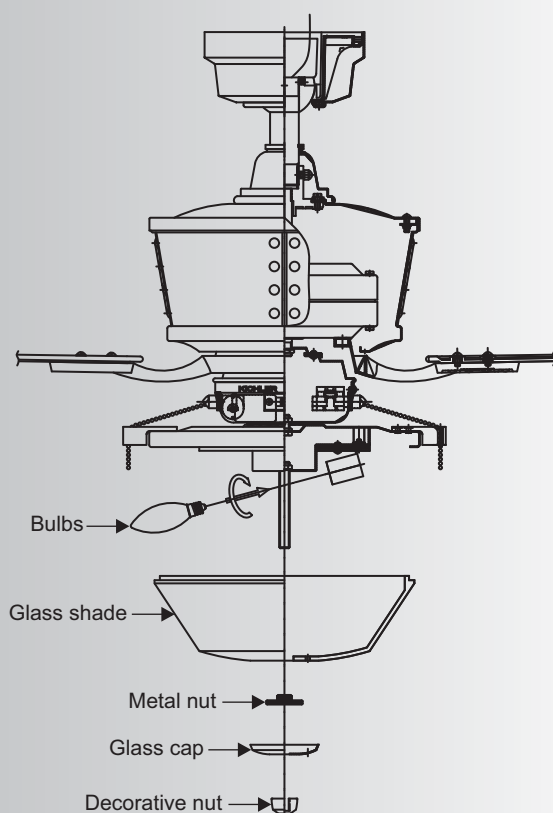

Fig. 18
2. Remove the decorative nut, glass cap and metal nut from the light kit. Place glass shade over the light kit stem, secure with the metal nut (rubber side on the top), glass cap and decorative nut. Do not overtighten. (Fig. 18)